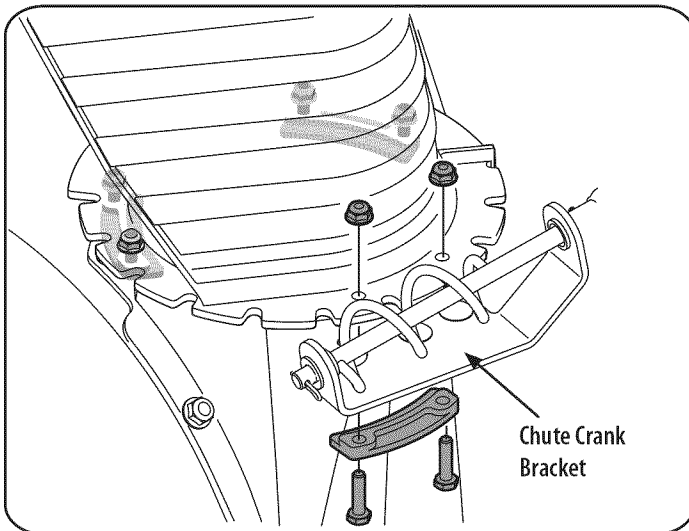

Figure 5
1. Remove lock nuts and screws securing one of the flange keepers to the chute assembly. Loosen the fasteners of the other two flange keepers. See Figure 5.